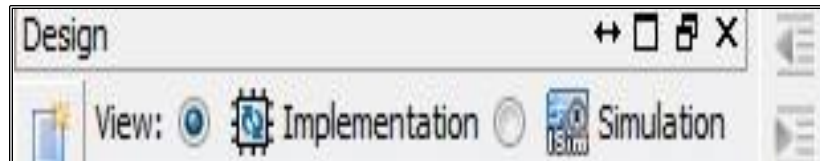

Fig 1.21: Hierarchy Window
23. Next we have to select **Implementation** button in the **Hierarchy window** on the left pan (Fig 1.21) for the hardware implementation of the design.